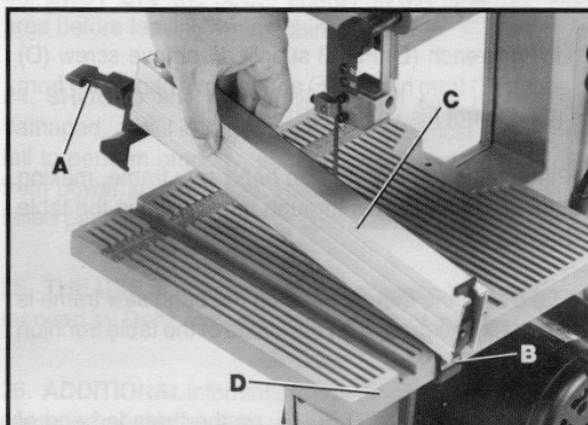

Fig. 8
1. With lever (A) Fig. 8, in the raised position as shown, assemble rear clamp (B) of rip fence (C) over lip of table (D).